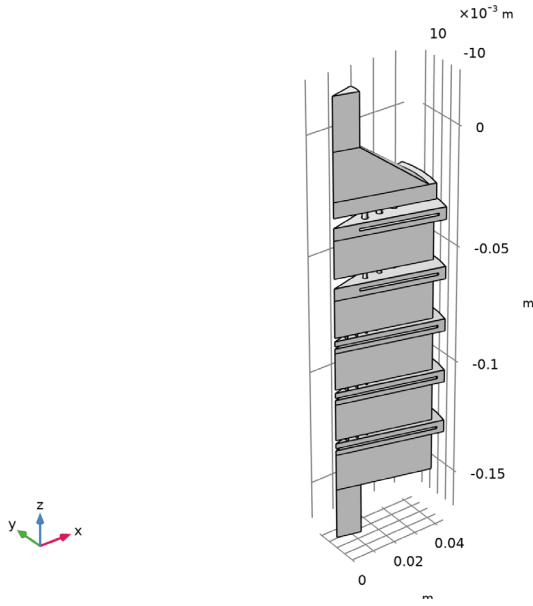

Figure 1: Model geometry of a cascade impactor device.
The aerosol containing spherical particles of density 2200 kg/m^3 and sizes ranging from $1 \text{ }\mu\text{m}$ to $5 \text{ }\mu\text{m}$ enters the inlet at the flow rate of 3 l/min . The **Gravity** feature is used to apply gravitational force. The geometry is axially symmetrical so only a sector of geometry of 30° is built as shown in Figure 1 and the **Symmetry** feature is used which highly reduces the computational time. Drag and lift forces are applied in entire domain using the **Drag Force** and the **Lift Force** features.
- 3 In the **Geometry** toolbar, click  **Build All**. The geometry should look like Figure 1.